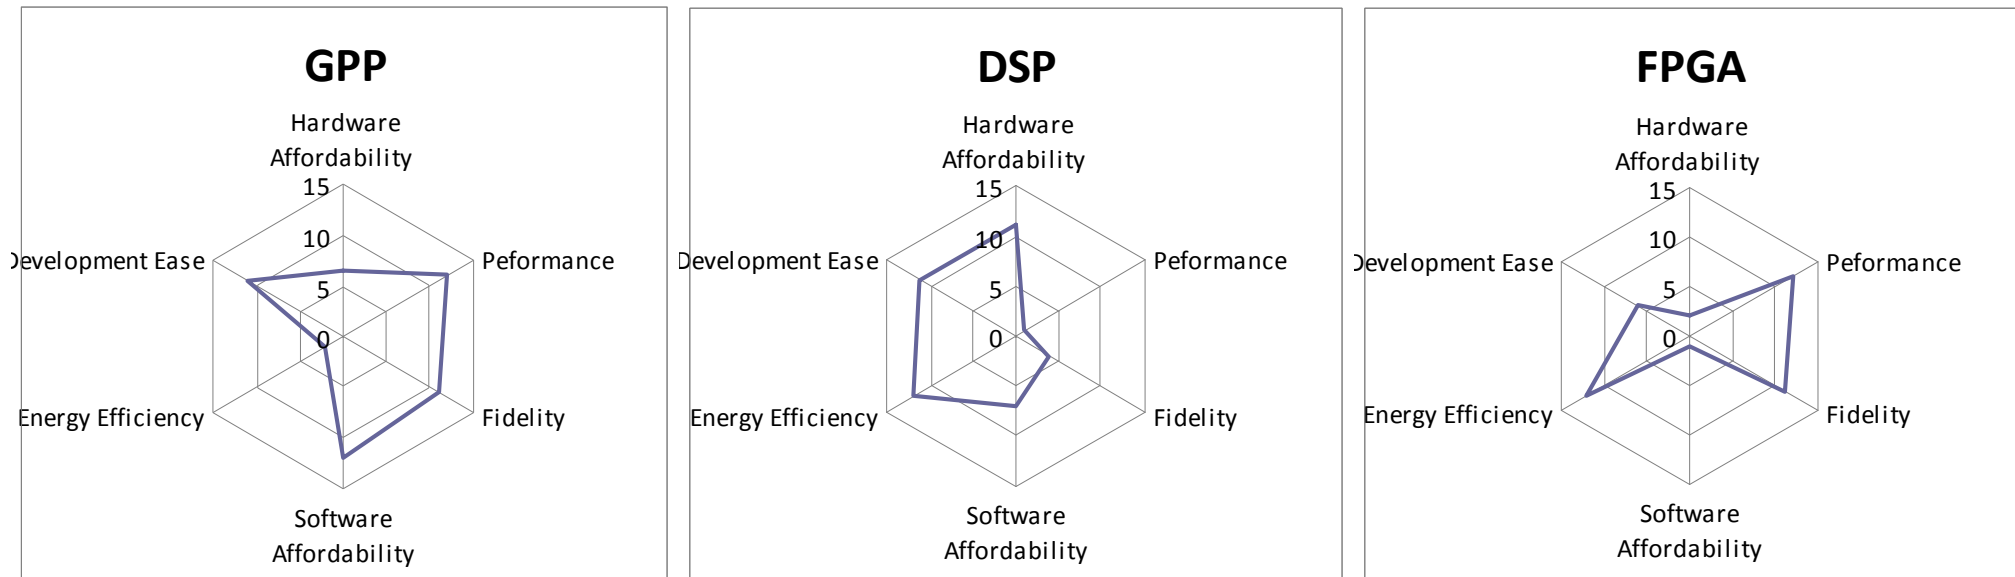

Figure 2-4. Experimental Results
- Next, we plotted these metrics in a series of spider plots in Figures 2-4, to visually represent the trends